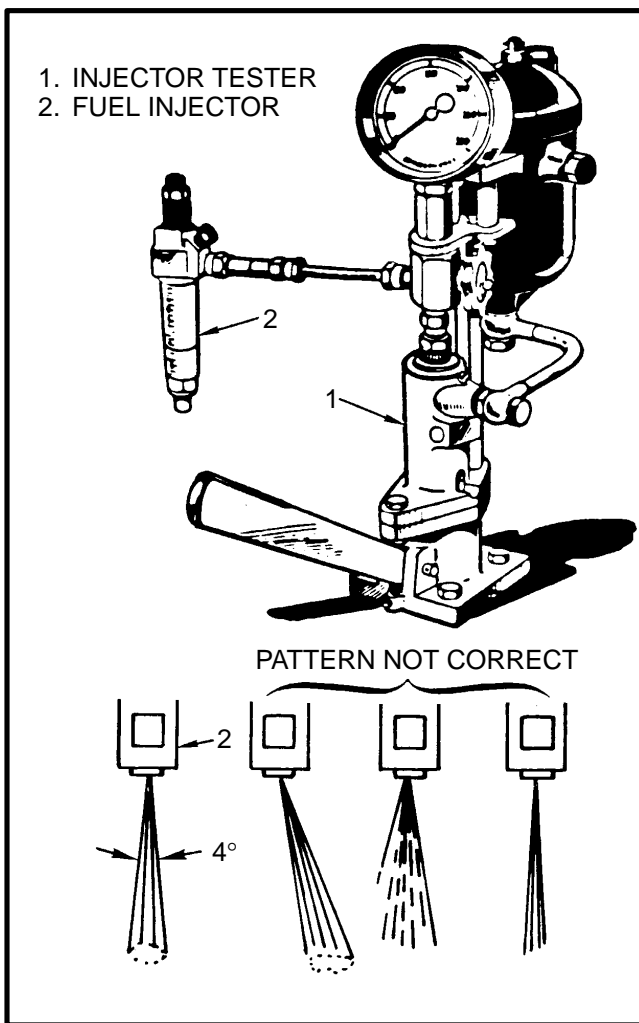

FIGURE 69. CHECK THE FUEL INJECTORS
3. The operation of the fuel injector must be checked with an injection tester. See FIGURE 69. The injection tester uses a special oil for calibration tests.
4. Check the spray pattern of the nozzle. See FIGURE 69. If the spray pattern is not correct, the needle valve does not fit the valve seat correctly. Remove carbon deposits or replace parts as required.